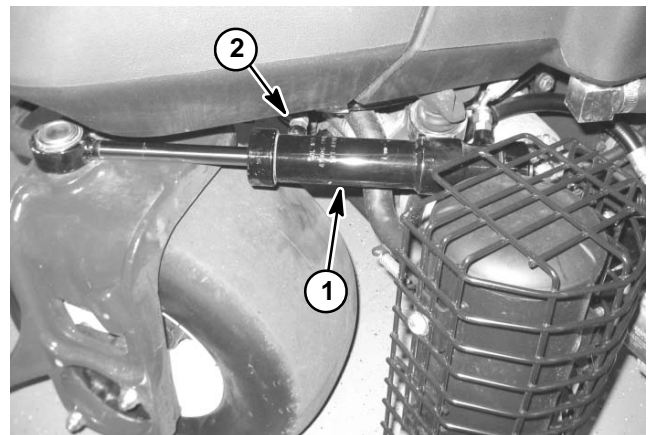

Figure 26
E. Remove hydraulic hose from the fitting on the ball joint end of the steering cylinder (Fig. 26). Plug the end of the hose.